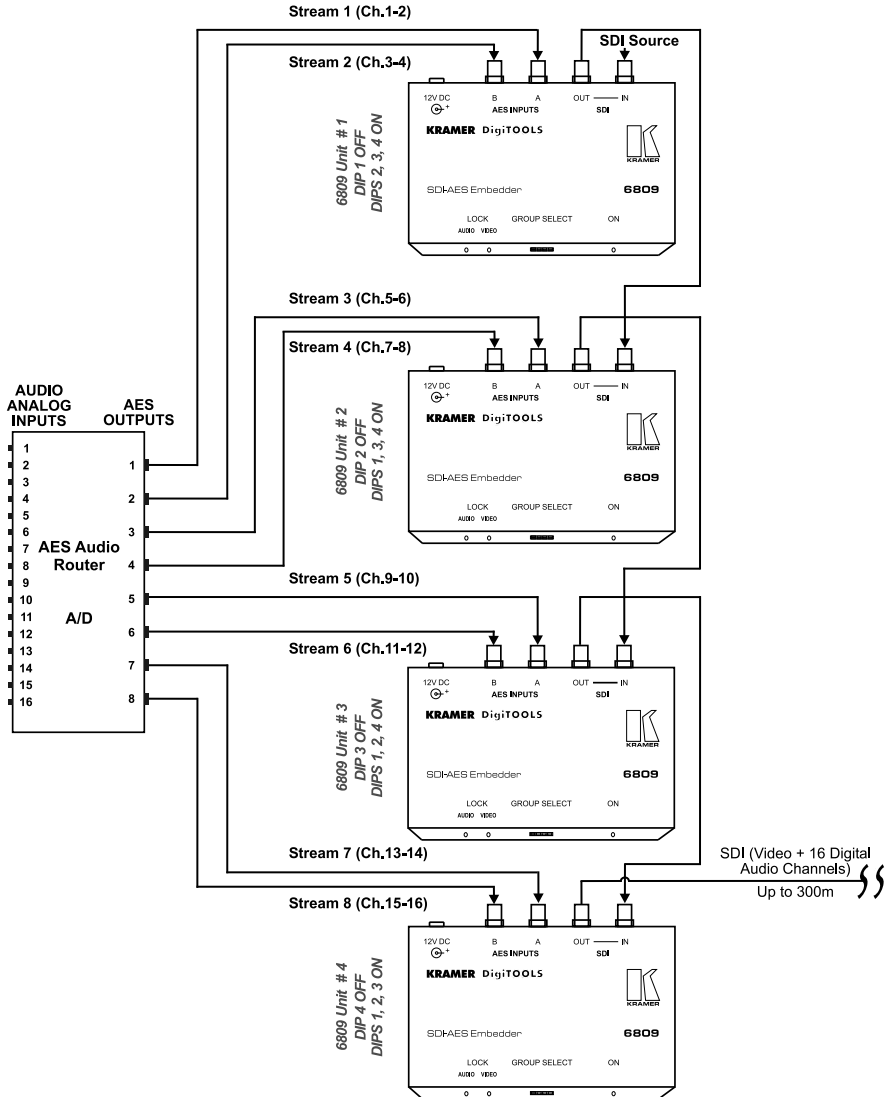
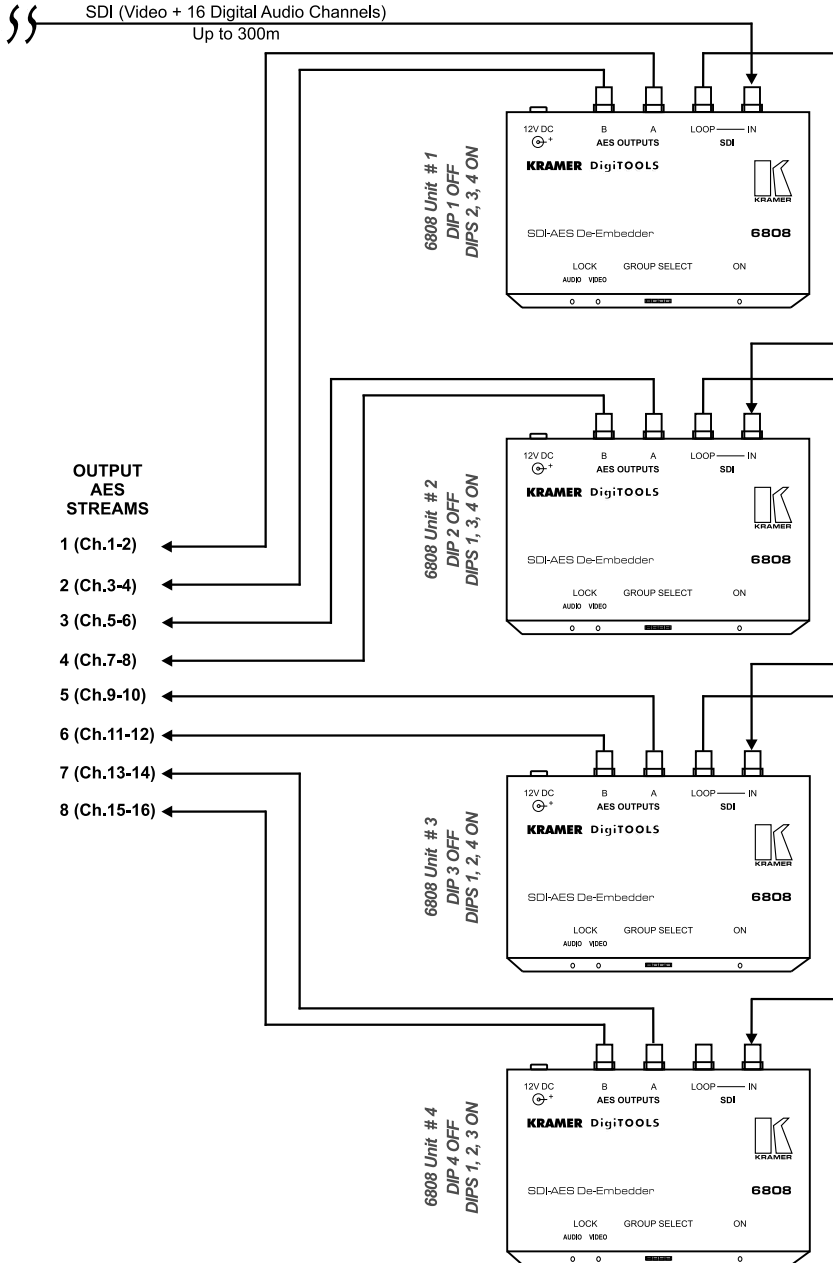

Figure 6: Cascading SDI-AES De-Embedder / SDI-AES Embedder Units I
Figure 7: Cascading SDI-AES De-Embedder / SDI-AES Embedder Units II
2. Connect the SDI LOOP BNC connector (OPTIONAL) to the SDI IN BNC connector on an additional unit to increase outputs (see Figure 7).
2. Connect the SDI OUT BNC connector to an SDI and AES/EBU acceptor or to the SDI IN BNC connector on a **6808 SDI-AES De-Embedder** unit (see Figure 6).
You can cascade up to four interconnected **6809 SDI-AES Embedder** units with up to four interconnected **6808 SDI-AES De-Embedder** units¹ to provide eight streams of AES, each stream containing two digital audio channels (see Figure 6 and Figure 7).